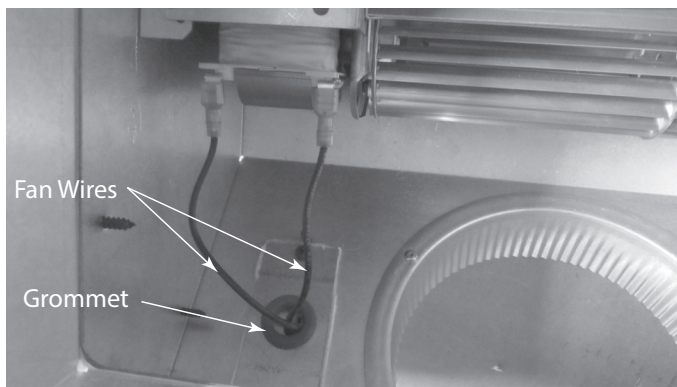

Figure 9
- Insert the fan wires through the grommet and into the junction box. See Figure 9.